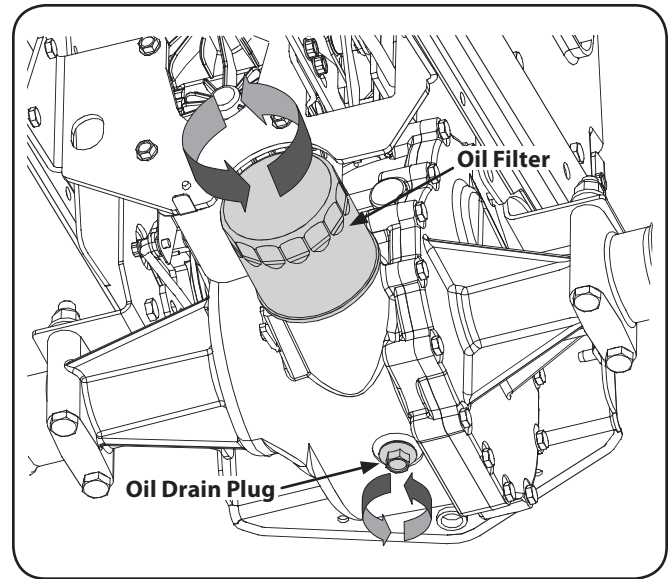

Figure 6-3
3. Remove the drain plug and allow the transmission oil to drain into a clean container having a capacity of more than six quarts. Reinstall the drain plug. See Fig. 6-3.
4. Clean around the base of the transmission oil filter and remove the filter by turning it counterclockwise. Refer to Fig. 6-3.